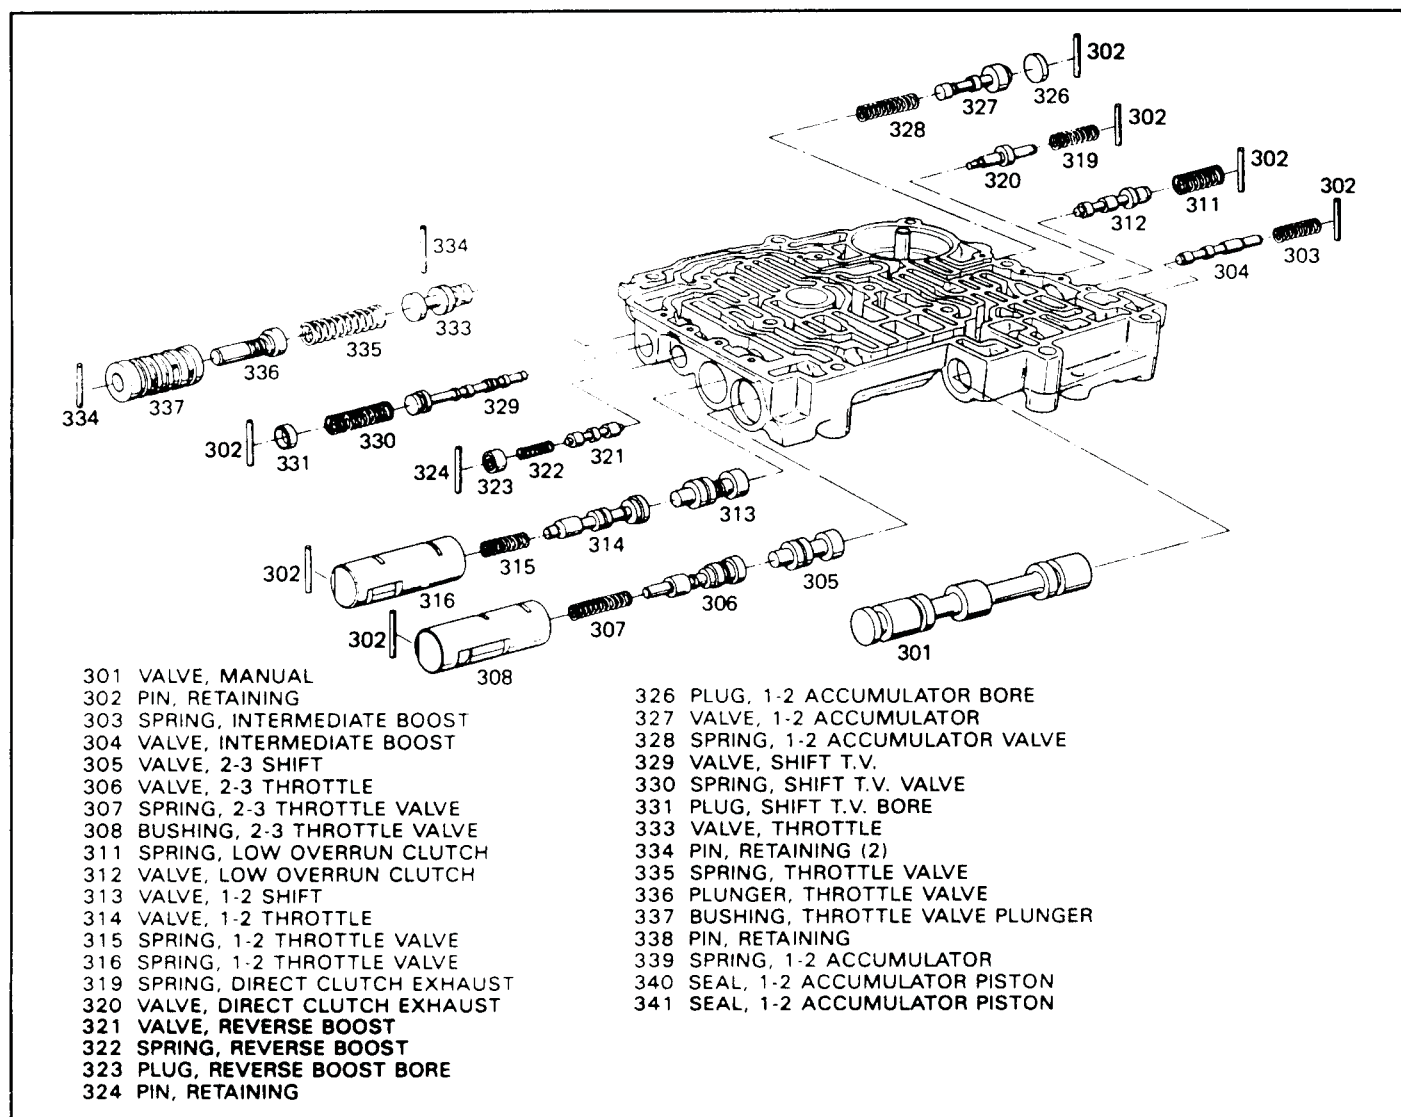

Figure 115
3. Position the valve body as shown in Figure 115 on a clean surface.
6. Assemble the valve body exactly as shown in Figure 115. Give particular attention to position of valve lands and bushing passages.